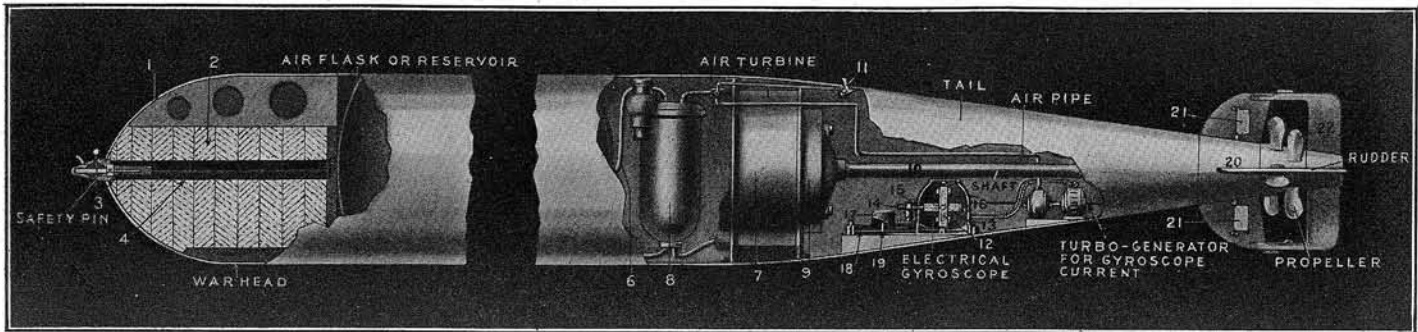

Fig. 1. Semi-Sectional View of Latest Type Automobile Torpedo.
This self-propelling demon is shown at Fig. 1 with its clever devices for steering and diving. It measures 22 feet long and 21 inches in diameter, with a weight of one ton. This modern fighting
The "war-head" (1), Fig. 1, differs from the "practice-head" and is used only in actual fighting. It is loaded with a charge of guncotton (2) containing 25 per cent. moisture. At 4 is the detonating charge, which is fired by the plunger or striking rod 3. A safety pin is provided at the end of the plunger, as depicted, this being used for safety when loading the torpedo in the firing tube.
The central flask or air reservoir 6 (Fig. 1) is connected to the turbine through the superheater 8. This turbine is connected to a reducer gear 9 and then to the propeller shaft 10 which operates the two propellers 22, 22. These are rotated in opposite directions. The power developed by the turbine is 110 horsepower and the shaft runs at 1,200 R.P.M., enabling the missile to travel at the rate of 35 to 40 knots, with an extreme range of 10,000 yards.